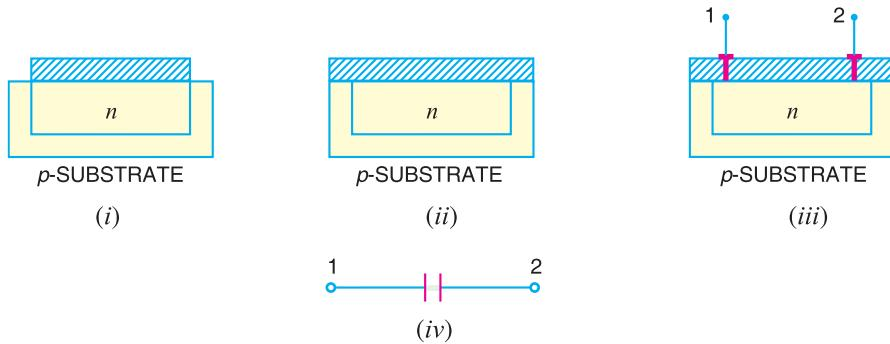

Fig. 23.9
**(iv) Capacitors.** Fig. 23.9 shows the process of fabricating a capacitor in the monolithic IC. The first step is to diffuse an n-type material into the substrate which forms one plate of the capacitor as shown in Fig. 23.9 (i). Then  $SiO_2$  layer is re-formed over the wafer by passing pure oxygen as shown in Fig. 23.9 (ii).
The  $SiO_2$  layer formed acts as the dielectric of the capacitor. The oxide layer is etched and terminal 1 is added as shown in Fig. 23.9 (iii). Next a large (compared to the electrode at terminal 1) metallic electrode is deposited on the  $SiO_2$  layer and forms the second plate of the capacitor. The oxide layer is etched and terminal 2 is added. This gives an integrated capacitor. The value of capacitor formed depends upon the dielectric constant of  $SiO_2$  layer, thickness of  $SiO_2$  layer and the area of cross-section of the smaller of the two electrodes.